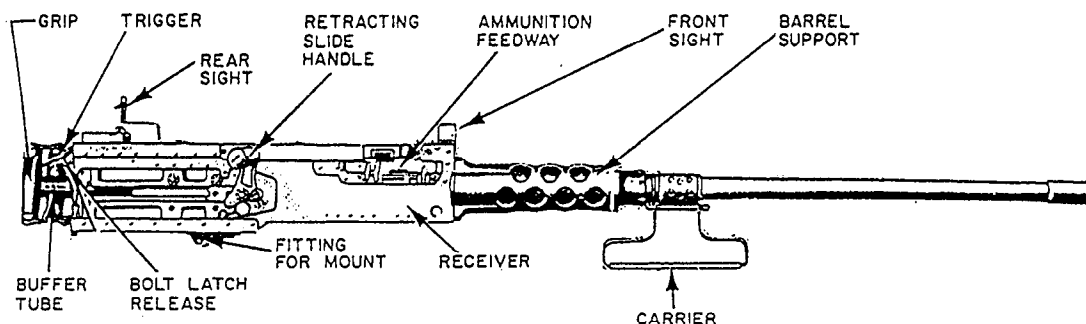

Figure 13-33.—The .50-caliber Browning machine gun (BMG), M2HB.
Browning machine guns (BMGs) are standard weapons used throughout the Navy. The .50-caliber BMG issued to naval activities is designated the M2. The weapon is available with two types of barrels. An aluminum alloy "light" barrel is used for the aircraft version of the .50-caliber BMG, M2. A "heavy" barrel (HB) is issued for ship and surface craft use. Our discussion centers around the .50-caliber BMG, M2HB (fig. 13-33).